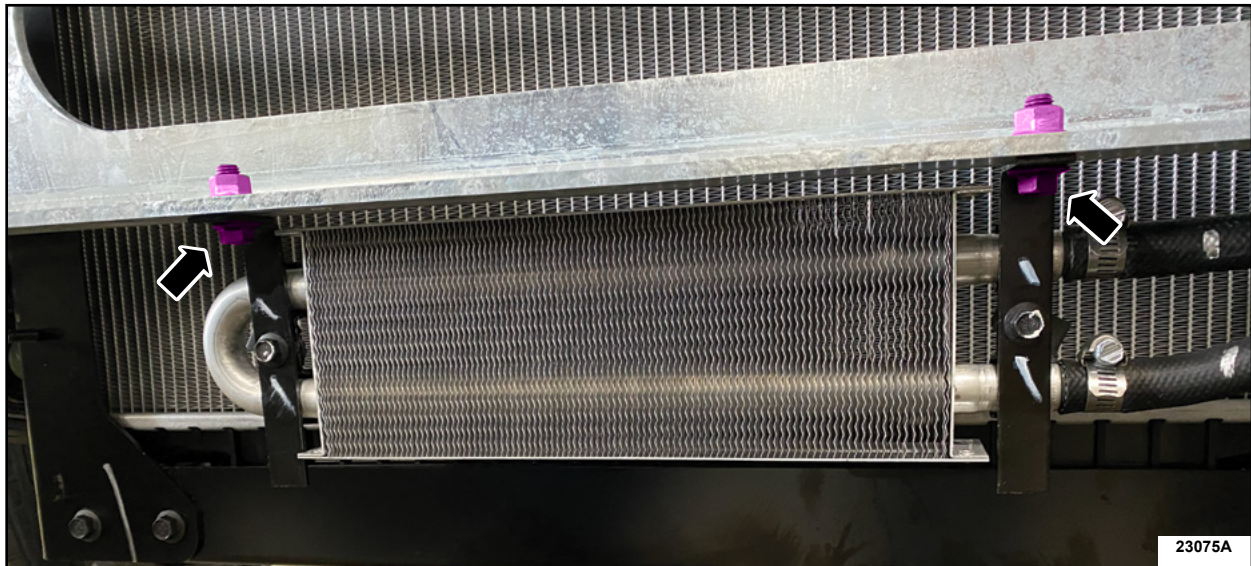

FIGURE 1
2. Remove both of the power steering cooler bracket to body bolts and nuts. See Figure 1.
6. Install both of the power steering cooler bracket to body bolts and nuts. See Figure 1.